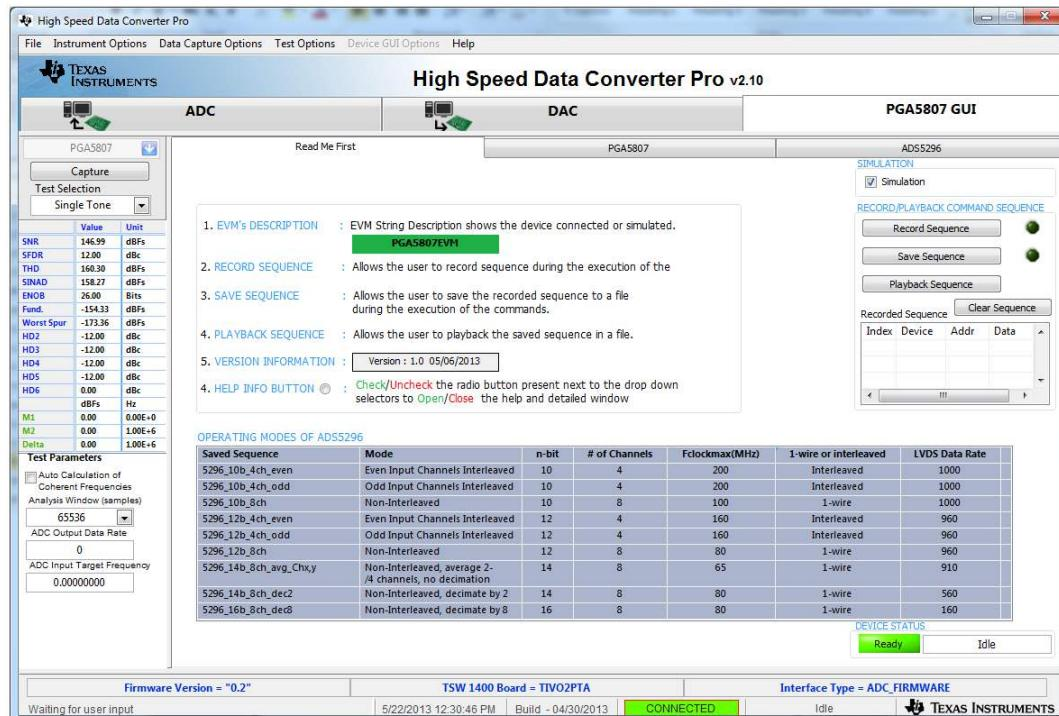

Figure 29. PGA5807 Plug-in GUI Setup (h)
3. Click on the tab *PGA5807 GUI* to view the software GUI for the PGA5807. The GUI consists of three tabs: *Read Me First*, *PGA5807*, and *ADS5296* as shown in Figure 29.